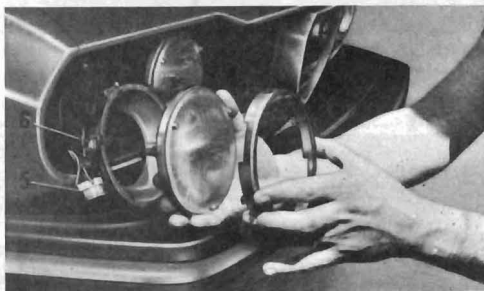

Fig. 9.6 Withdrawing a headlamp sealed beam unit (Sec 15)
- 4 Release the two retainers (6) which hold the metal cup to the headlamp outer trim ring (Fig. 9.6).
- 6 Engage the new unit with the outer trim ring, taking care that the nibs of the lens seat in their notches in the metal cup which should now be located. Also check that the positioning dowel (7) is at a